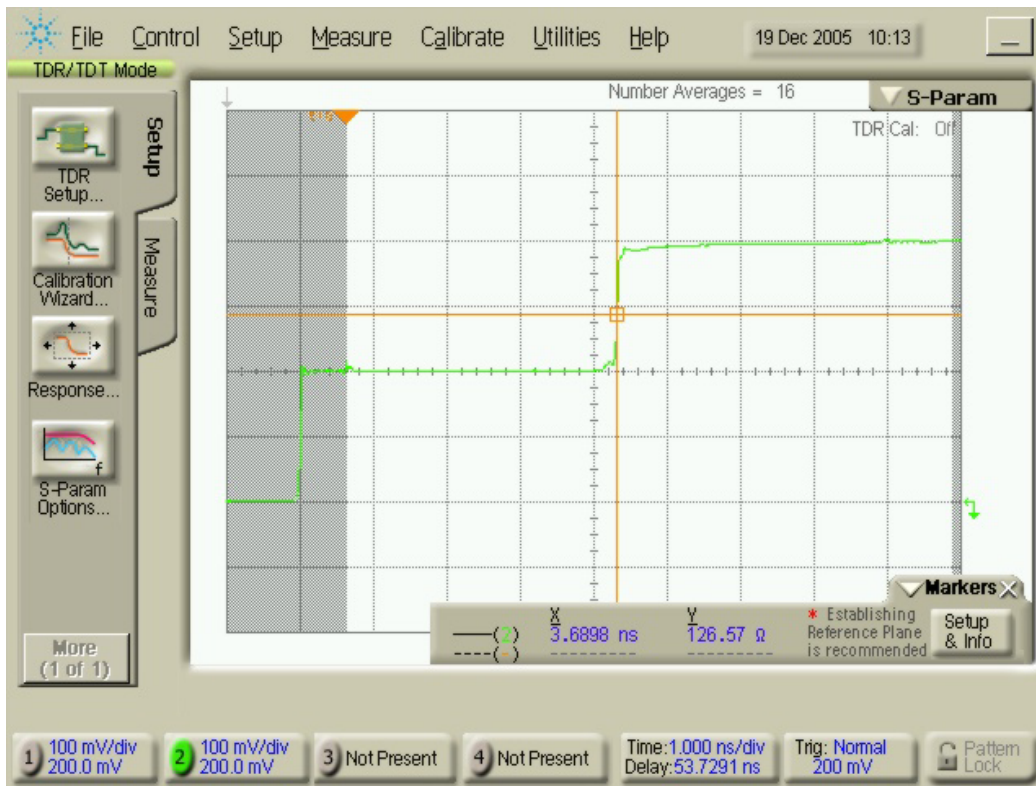

Fig 1. Open Cable
3. Place a marker in the center of the second rising edge. See fig 1 open cable.